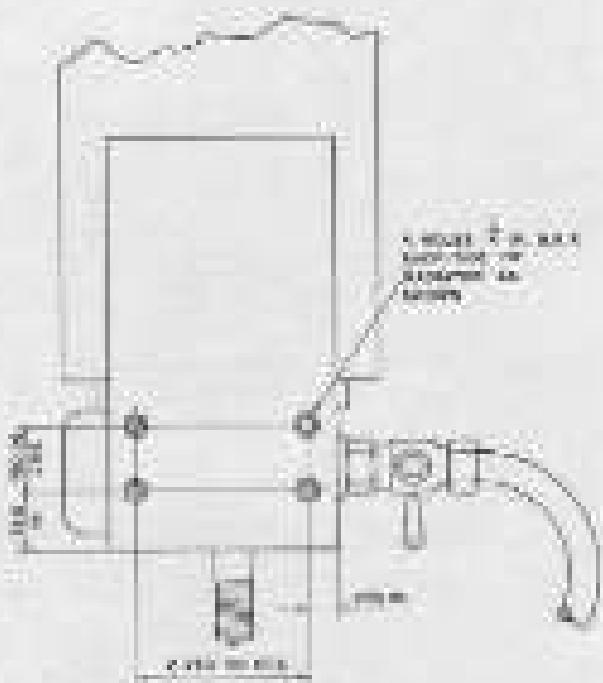

Fig. 14. Location of support plate bolt holes.
Before commencing to install the external oil cooler system in any type 401 car, first examine the radiator for the presence (or absence) of four  $\frac{1}{4}$  in. B.S.R. holes in each side plate (see Fig. 14).
3. Referring to Fig. 14, mark off the positions of the four holes in each radiator side plate, then drill and tap  $\frac{1}{4}$  in. B.S.F. holes.